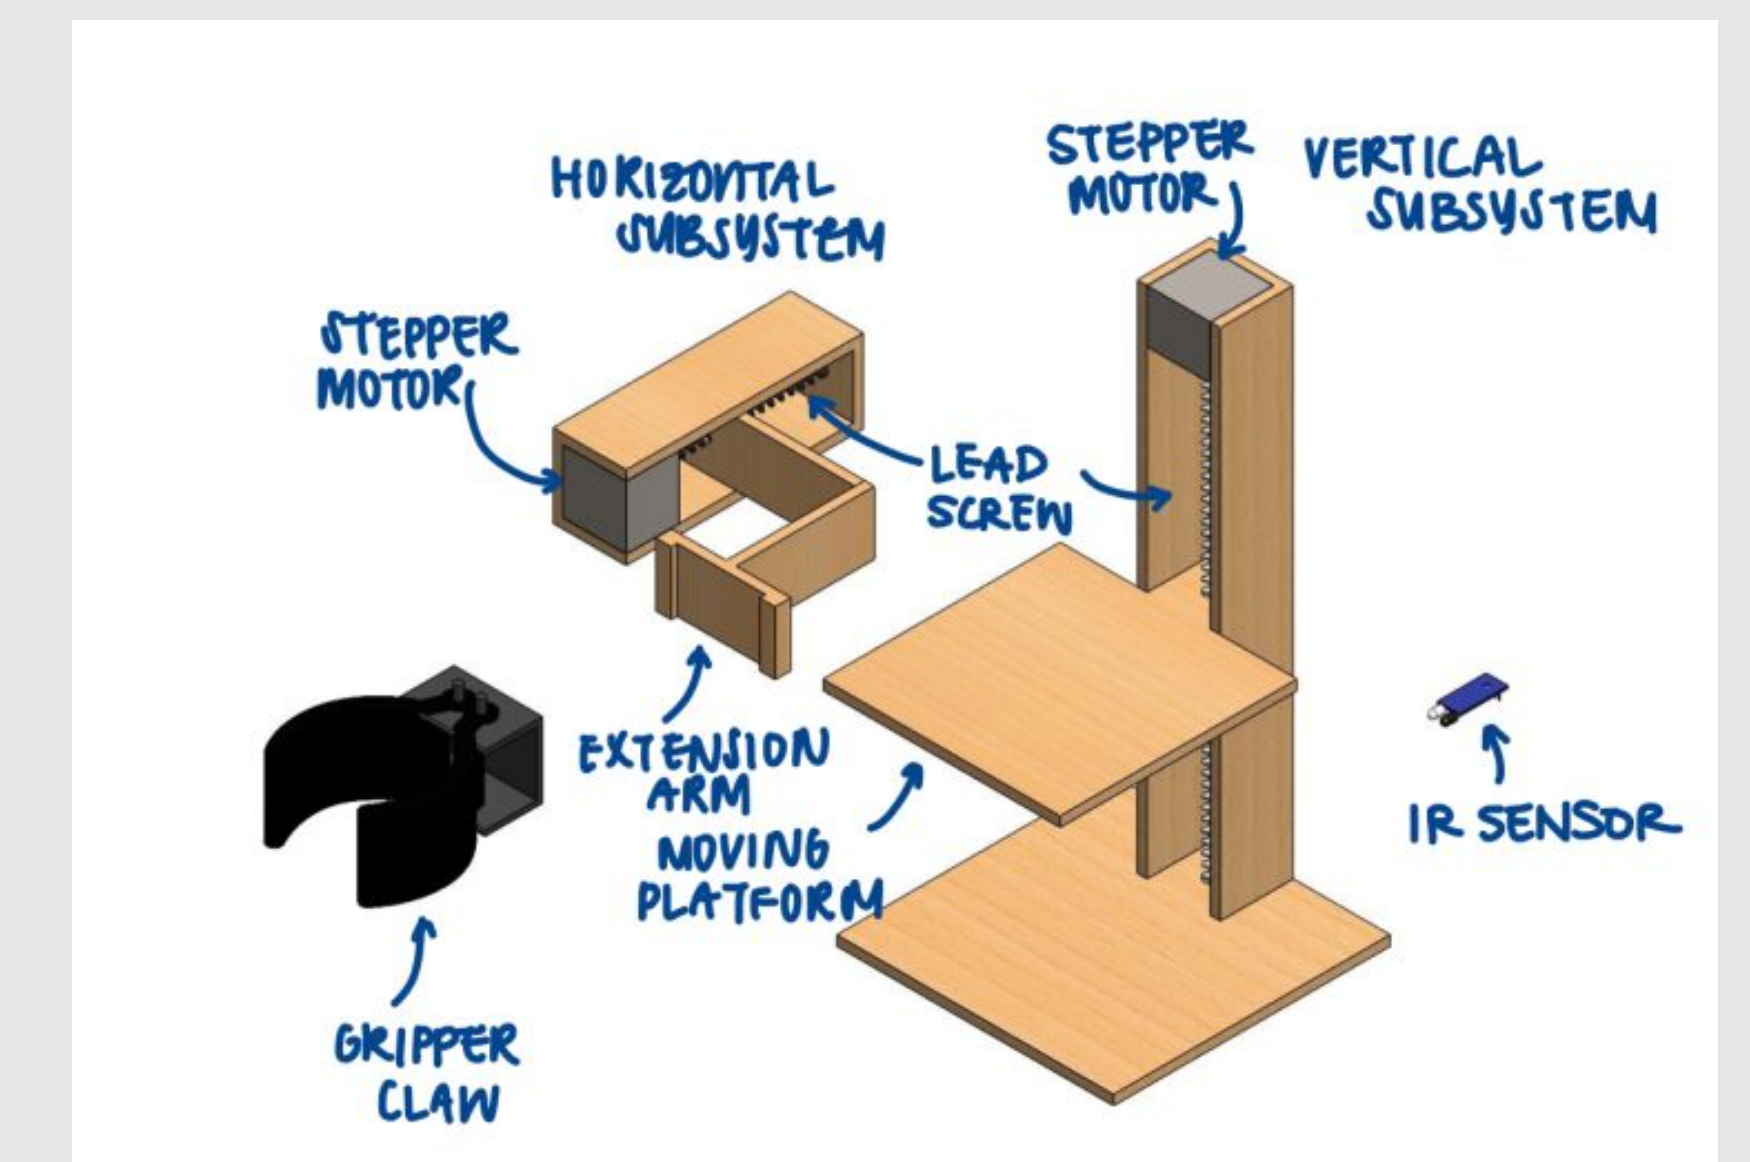

Figure 9: Exploded View of Prototype
- Wiring diagram of the stepper motor with the A4988 motor driver shown in Figure 9